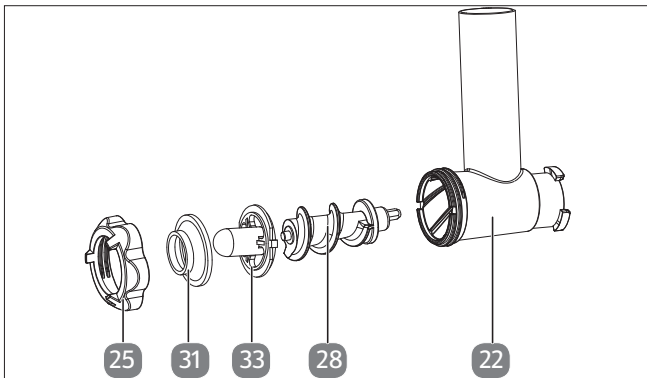

Fig. 24 – Kibbeh accessories
1. Assemble the accessories as shown (see Fig. 24).